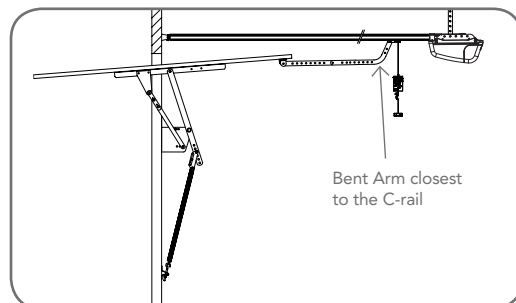

fig 20
- Assemble the bent and straight arms as shown in (Fig. 20) with bolts and nuts supplied in the accessory pack. Always use both the bent and straight arms.